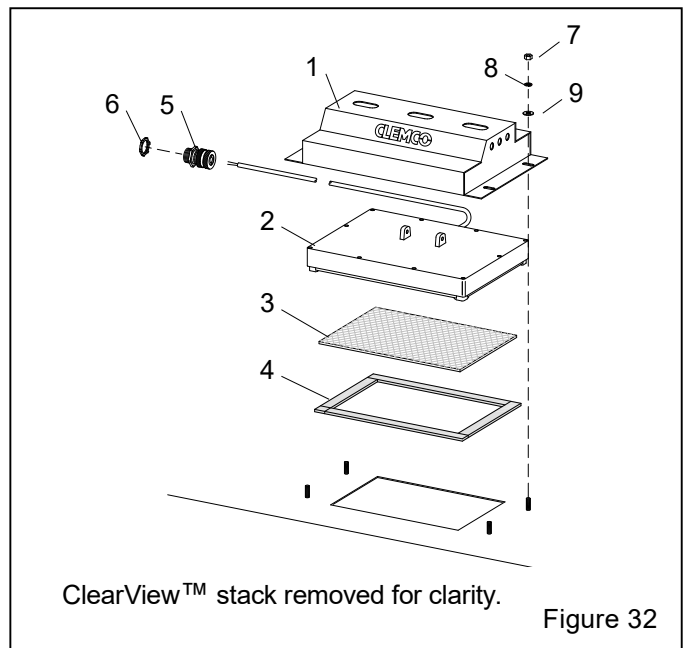

Figure 32
10.6 LED Light Assembly – Figure 32